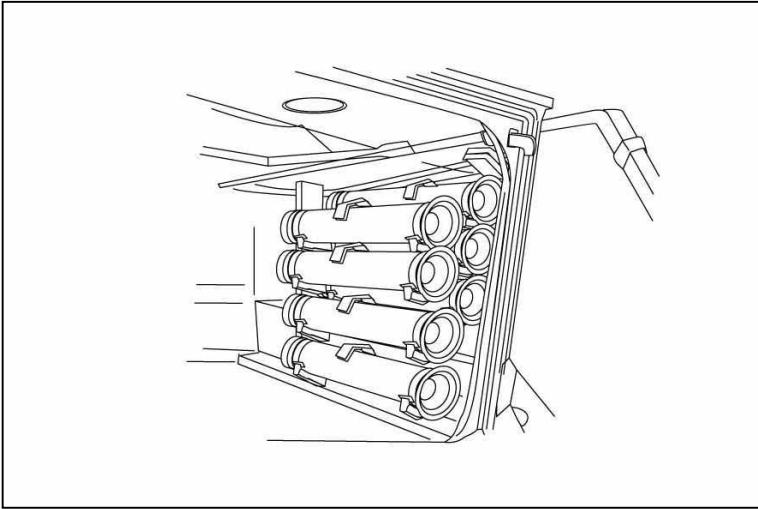

Figure 4-3-1: Storage Location of Missiles
23. **Missiles.** (see Figure 4-3-1) The 10 encased missiles are stowed on a rack directly across from the loader's seat. Each missile is secured in its rack by two nylon straps.